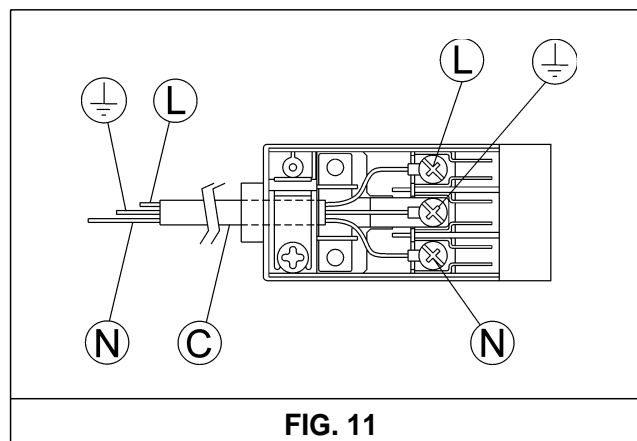

FIG. 11
- Fit the wires following figure 11, taking care of respecting the following correspondences: